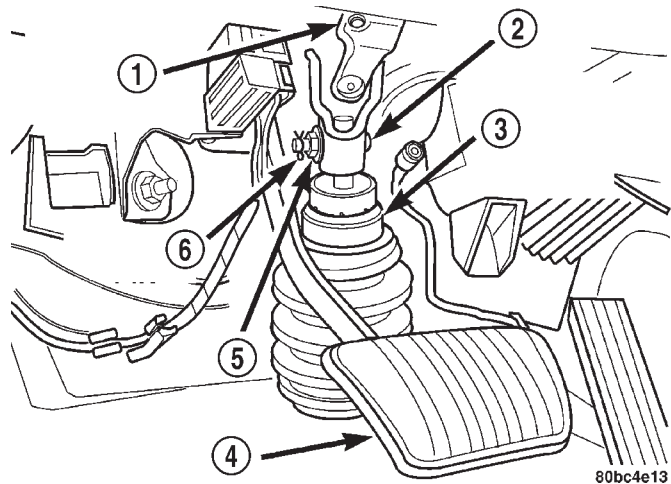

Fig. 3 Steering Column Couplings
(1) Place the steering wheel in the STRAIGHT-AHEAD position. Using a steering wheel holding clamp, lock the steering wheel in place to keep it from rotating. This keeps the clockspring in the proper orientation.
(2) Inside the passenger compartment, remove the steering column coupling retainer pin, back off the pinch bolt nut, and remove the steering column coupling pinch bolt (Fig. 3) (the pinch bolt nut is caged to the coupling and is not removable). Separate the upper and lower steering column couplings.
(6) Ensure front wheels of vehicle are positioned STRAIGHT-AHEAD, then align and attach the steering column upper coupling to the lower coupling. Install the coupling pinch bolt (Fig. 3). Tighten the pinch bolt nut to a torque of 28 N·m (250 in. lbs.).
- (7) Install the coupling pinch bolt retainer pin.
- (8) Remove the steering wheel holding clamp.